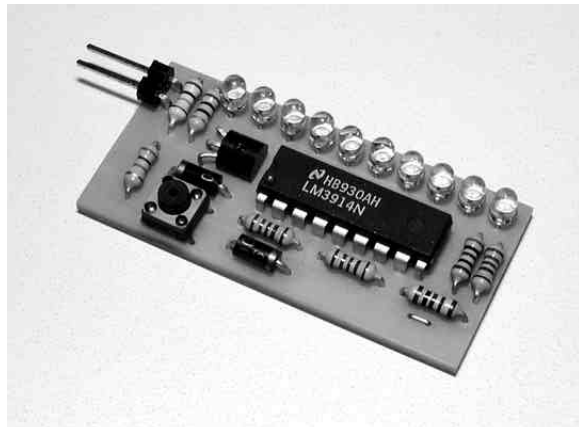
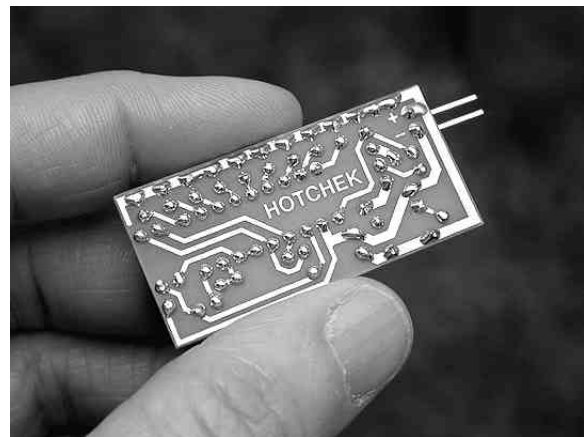
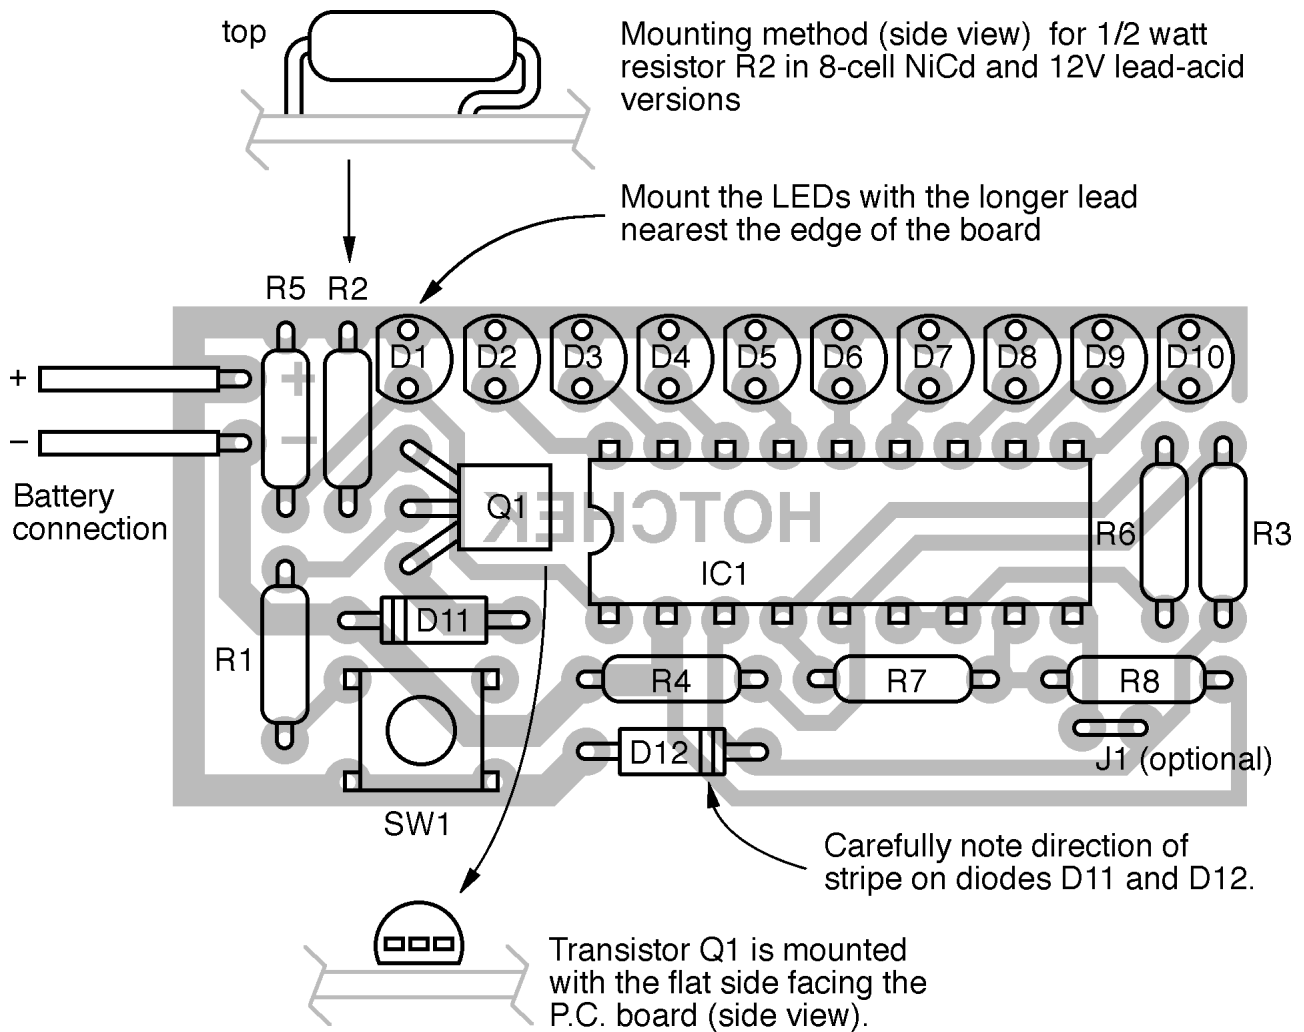

Fig. 1 Component installation details of the HOTCHEK circuit.
Fig. 9 Photograph of the assembled HOTCHEK from the trace side of the printed circuit board.
Figure 8 – Component installation for the HOTCHEK circuit.
A small and easy to build device (shown in Fig. 1) based on the LM3914 voltage measurement integrated circuit (IC) can be used to measure the output voltage of rechargeable battery packs. A built in discharge circuit places a 300mA load on the battery that can be activated by the press of a button. The application of this load is very important since the stability of the battery's voltage under current drain is an important indication of its charge state. The HOTCHEK's small size and weight allow it to be installed onboard an R/C vehicle or alternatively, it can be used as a convenient "pocket-sized" battery checker. Component values are provided for both 4 and 5 cell NiCd (nickel cadmium) receiver packs as well as for 8 cell transmitter packs. Also, a simple set of formulas is presented to adjust the voltage range for other battery testing applications, including 12V lead-acid field batteries.
Fig. 8 shows a diagram of the installation of the components onto the board. They should be inserted from the side opposite from the copper circuit pattern. Table 1 is a list of the components with their required values. Special attention should be given to IC1, Q1, and D1-D12 since the direction they are installed is very important. The LEDs often have a small flat on one side that should be oriented as shown in Fig. 8. If the LED's don't have the flat, then the positive lead (upper lead in the figure) can be identified by the fact that it is longer than the negative lead. Diodes D11 and D12 have a stripe identifying one of the leads. I have found that LEDs with clear lenses are most visible in sunlight conditions. However, note that it is not possible to distinguish between the three colors until they are installed in the circuit and operating. For this reason, take care not to lose track of which color LED is which. The 1%
Carefully solder the installed components to the copper circuit pattern, taking care to avoid solder bridges across gaps between the traces. It is *extremely important* to use a good quality resin core electronics-grade solder and to brighten the copper traces with fine steel wool or a scotch-brite pad before starting. Advice and/or instruction from a fellow modeler with circuit assembly experience could be useful here. Fig. 9 shows the completed soldering job on the trace side of the board. The excess resin left from soldering can be easily removed with a solvent such as lacquer thinner and an epoxy brush with the bristles cut back to 1/4". A 90° 2-pin header can be used for the input voltage as shown in Fig. 1. Alternatively for onboard applications, a servo wiring harness can be soldered into the board so that the HOTCHEK can be plugged directly into the receiver. Table 2 summarizes the wire color codes typically used for some common radio systems. Using Fig. 8, carefully attach the leads according to this chart. Users of older Airtronics equipment should be cautioned that the V+ and V- wires are reversed in the servo harness from those for Futaba, JR, and RCD radio systems. Since the Airtronics harness has two wires of the same color (black), carefully note which one is denoted as the center wire in Table 2. For onboard installations, you may want to omit the current loading circuitry (R1, R2, Q1, D11, and SW1) to prevent possible binding against the test button and accidental engagement of the test load during operation of the R/C vehicle. As previously discussed, the loading section of the circuit also has little utility for 12V lead-acid batteries and can be omitted.